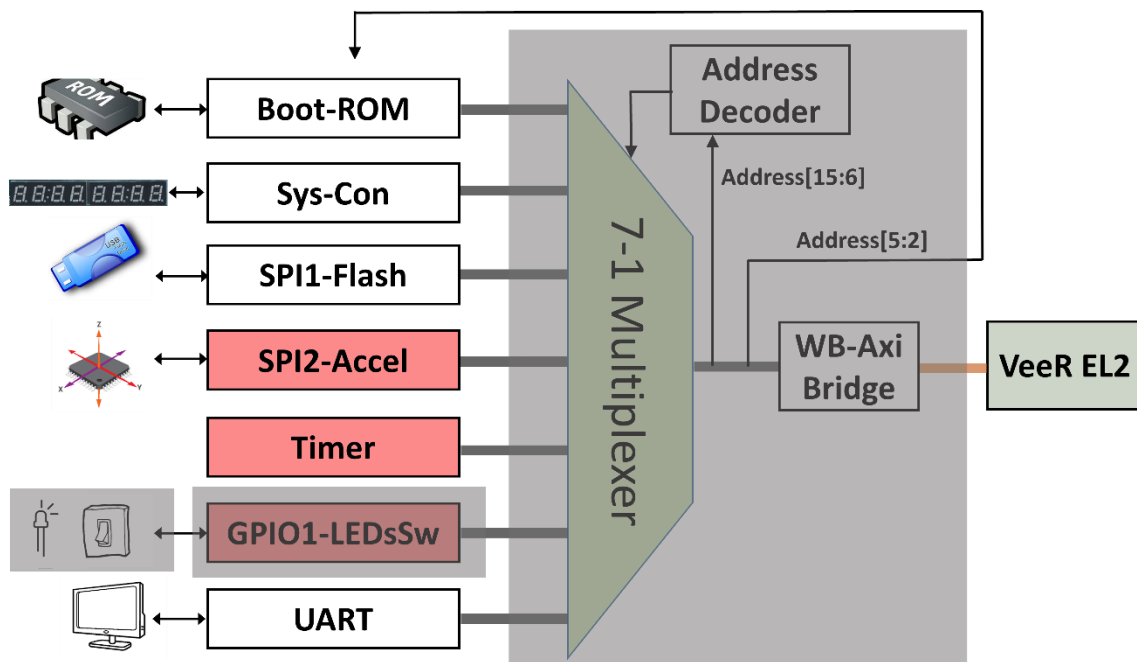

Figure 4. GPIO analysis in 3 phases
Now that you have had some experience with accessing the GPIO pins using memory-mapped I/O, let's dive into the low-level details of the GPIO. The GPIO can be divided into three main parts, as shown in Figure 4: (1) RVfpgaEL2-NexysA7' external connection to the on-board LEDs/Switches (left shaded region in Figure 4); (2) Integration of the GPIO module into the VeeRwolf SoC (middle shaded region in Figure 4); (3) Connection between the GPIO and the VeeR EL2 Core (right shaded region in Figure 4).